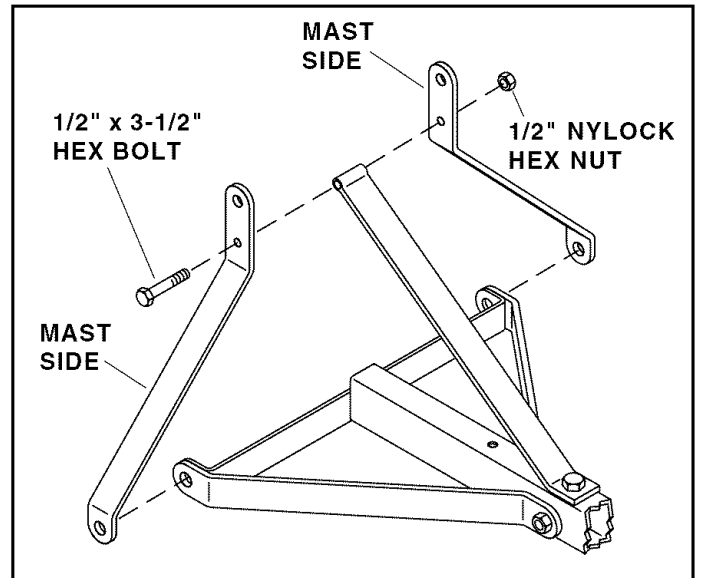

FIGURE 6
- Attach two mast sides to the mast support using a 1/2" x 3-1/2" hex bolt and 1/2" Nylock hex nut. Use the end of the mast side with two holes, inserting the hex bolt through the smaller hole. **Do not tighten yet.** See figure 6.